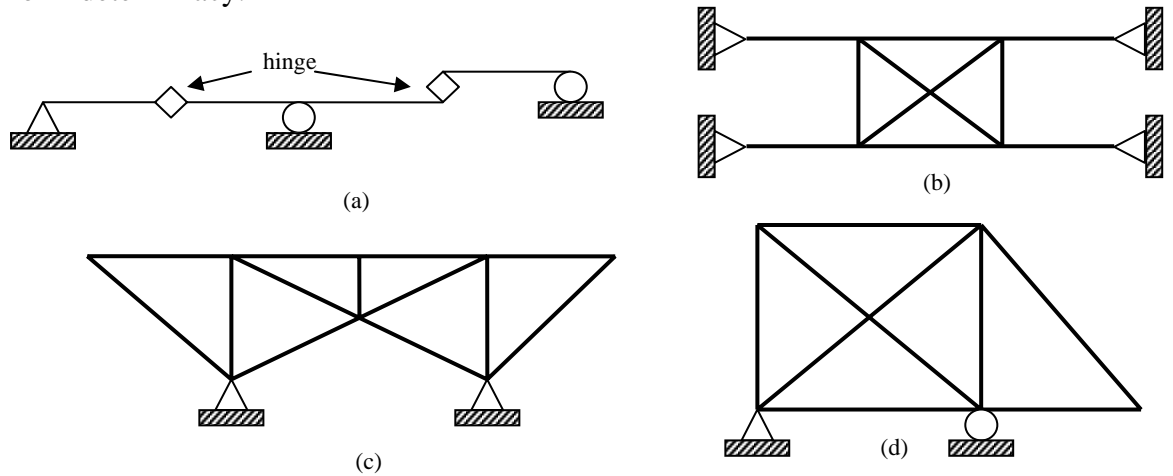

Figure 1
- 1 Classify each of the structures in Figure 1(a)–(d) as statically determinate, statically indeterminate, stable or unstable. If indeterminate, specify the degree of indeterminacy.